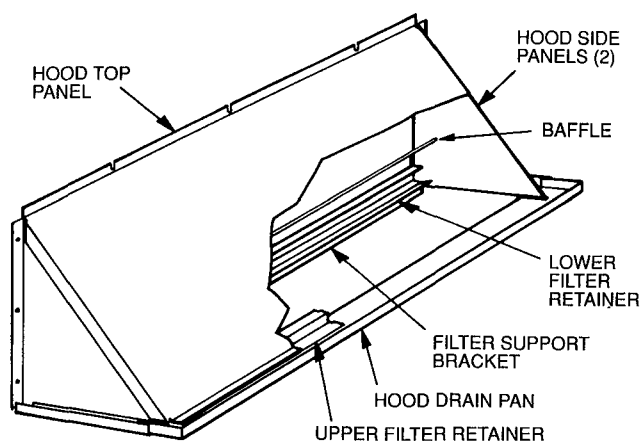

Fig. 24 — Outdoor-Air Hood Details
2. Assemble hood top cover, side panels, upper filter retainer, and drain pan (see Fig. 24).
3. Secure lower filter retainer and support bracket to unit. See Fig. 24. Leave screws loose on 028 units.